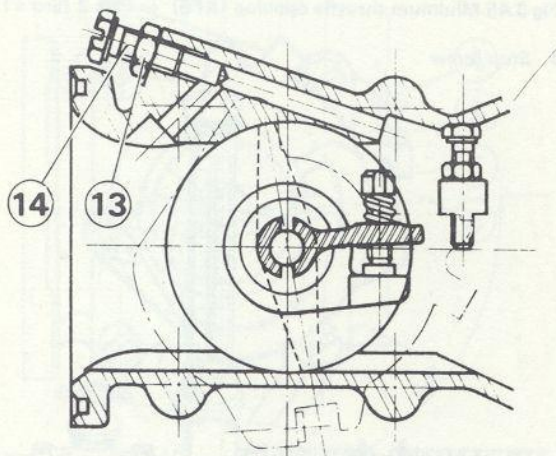

Fig 3.48 Idling adjustment (KF6) (Sec 43)
2 Referring to Fig. 3.48 slacken the locknut (13) and adjust the air bleed screw (14) to obtain an engine speed of 800-850 rpm. It will be found that screwing it in decreases the engine speed and screwing it out increases it.